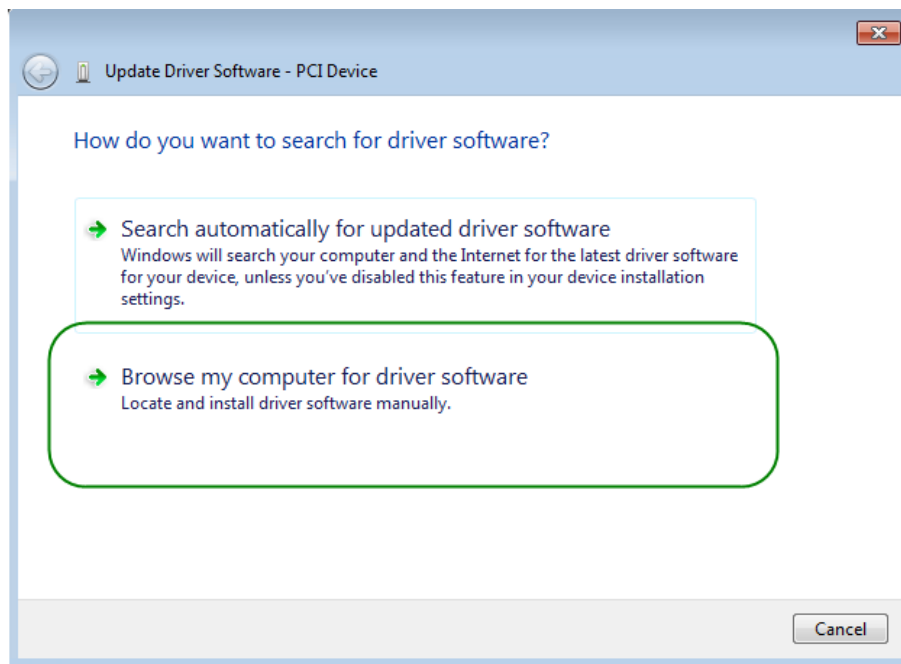

Figure 7-4 Dialog of Browse my computer for driver software
6. In the **How do you want to search for driver software** dialog, click **Browse my computer for driver software** item, as shown in **Figure 7-4**